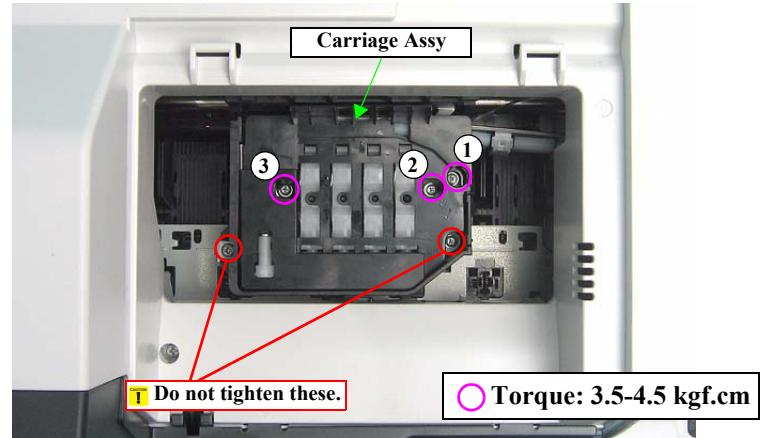

Figure 5-14. Head angular adjustment (4)
Do not use a electric screwdriver when tightening the screw in the next step. Make sure to use a torque screwdriver to keep the torque shown in Fig. 5-14.
8. Tighten the screws (x3: ○) in the order given in Fig. 5-14 to secure the Printhead.